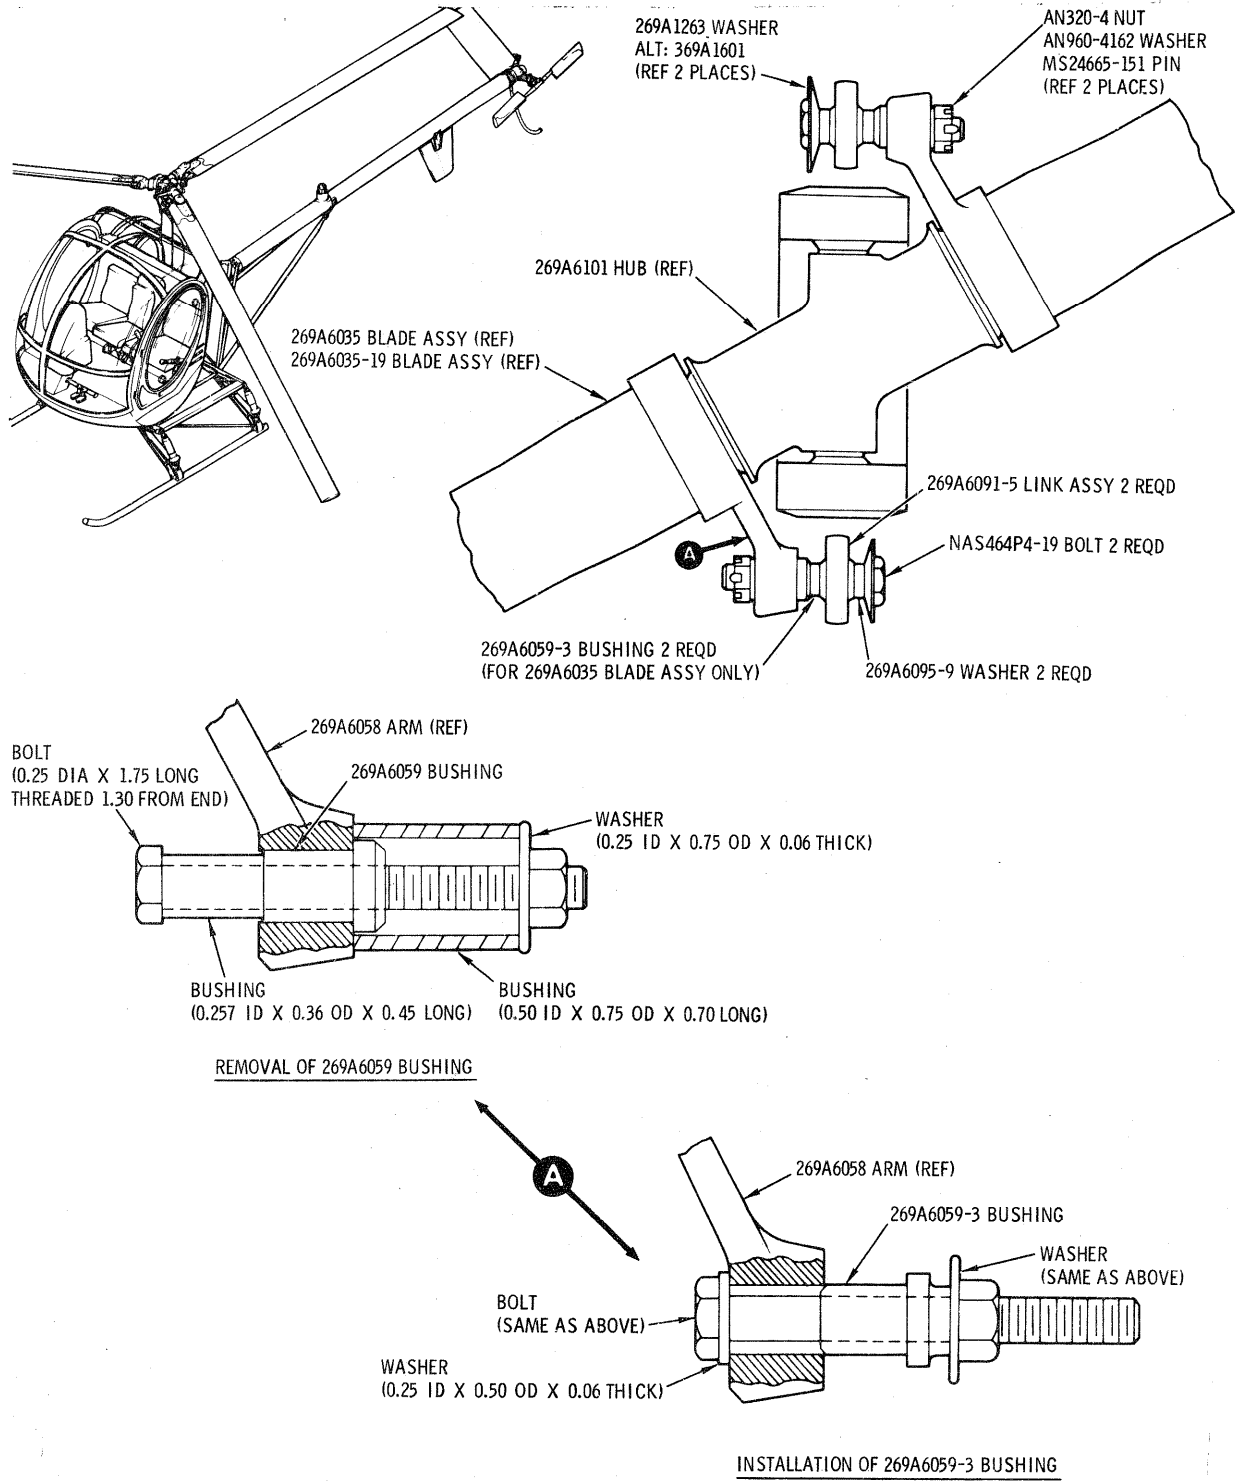

Figure 1. Replacement - Tail Rotor (LTS) Pitch Link Assemblies (Kit No. M10067)
1. Assemble bolt, bushings, washer and nut on pitch control arm, as shown in Figure 1; tighten bolt to remove 269A6059 bushing from arm.
2. Assemble bolt, washer, new 269A6059-3 bushing, washer and nut, as shown in Figure 1; tighten nut to seat bushing in arm. Install bushing with wet zinc chromate primer.